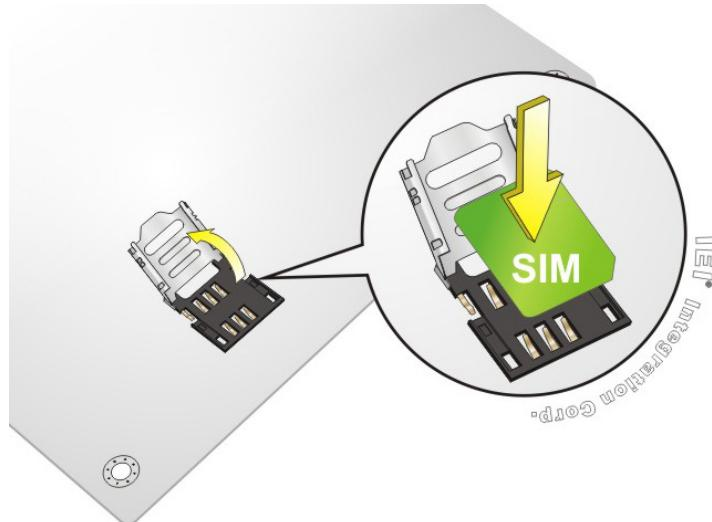

Figure 4-6: SIM Card Installation
Step 3: Open the slot cover and place a SIM card onto the slot. The cut mark on the corner should be facing away from the slot as shown in **Figure 4-6**.